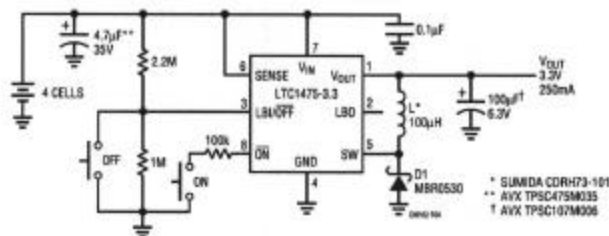

Figure 4. Pushbutton ON/OFF 3.3V/250mA Regulator
The LTC1475 provides the option of pushbutton control of ON/OFF mode for handheld products. In contrast to the LTC1474's ON/OFF mode, which is controlled by a voltage level at the RUN pin (ground = OFF, open/high = ON), the LTC1475 ON/OFF mode is controlled by an internal S/R flip-flop that is set (ON) by a momentary ground at the  $\overline{ON}$  pin and reset (OFF) by a momentary ground at the LBI/OFF pin. This provides simple ON/OFF control with two pushbutton switches. A simple implementation of this function is shown in Figure 4.